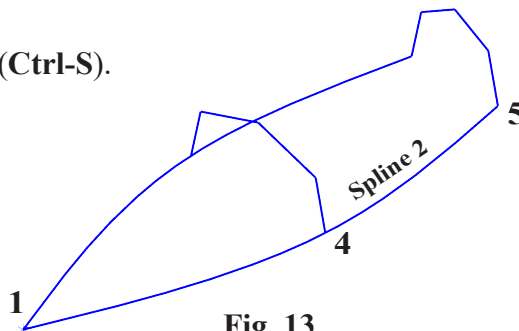

Fig. 13
Step 3. Sketch another spline across at **1, 4 and 5**, **Fig. 13**.